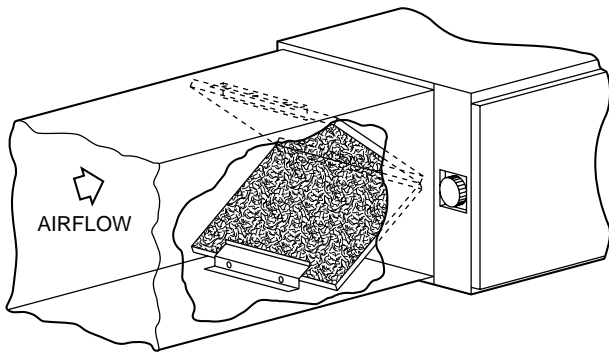

Fig. 4—Horizontal Filter Arrangement
1. Horizontal and Downflow—filters installed in return-air duct (see Figs. 4 and 5)